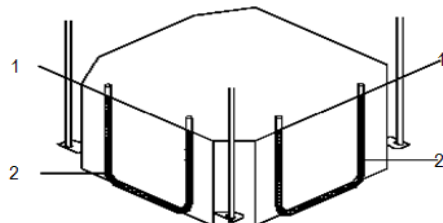

**Fig. 11 – Secure the Hanger Bracket**
- b. Secure the hanger bracket (see Fig. 11).